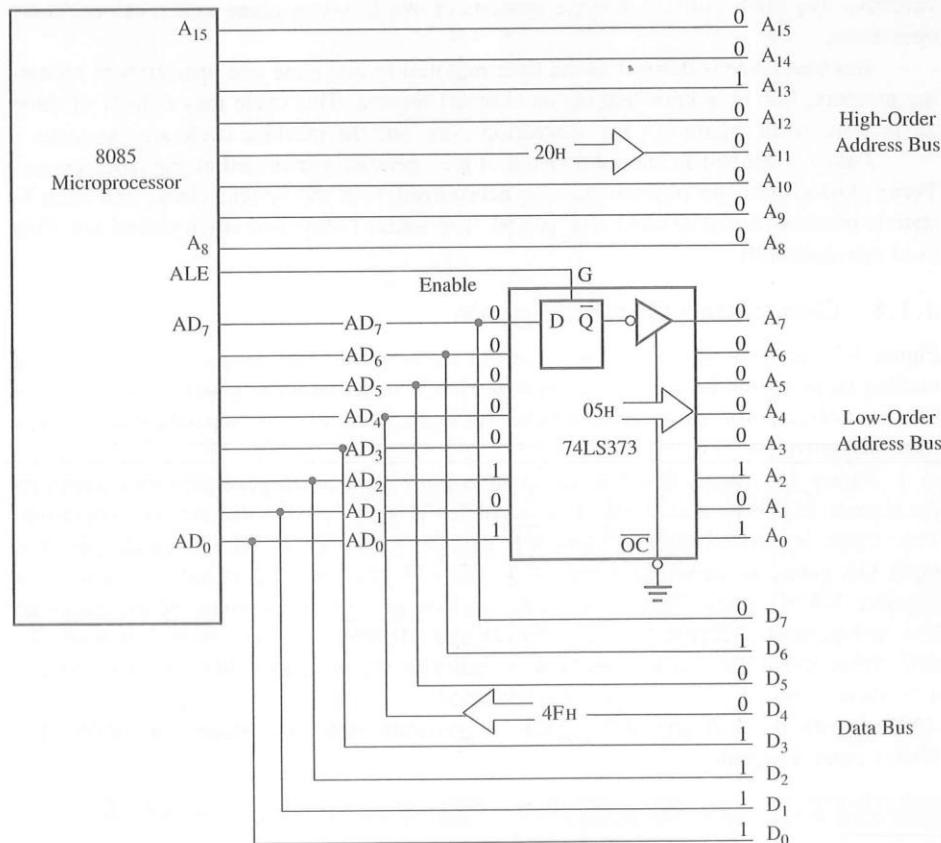

FIGURE 4.4
Figure 4.4 shows a schematic that uses a latch and the ALE signal to demultiplex the bus. The bus AD_7-AD_0 is connected as the input to the latch 74LS373. The ALE signal is connected to the Enable (G) pin of the latch, and the Output control (\bar{OC}) signal of the latch is grounded.